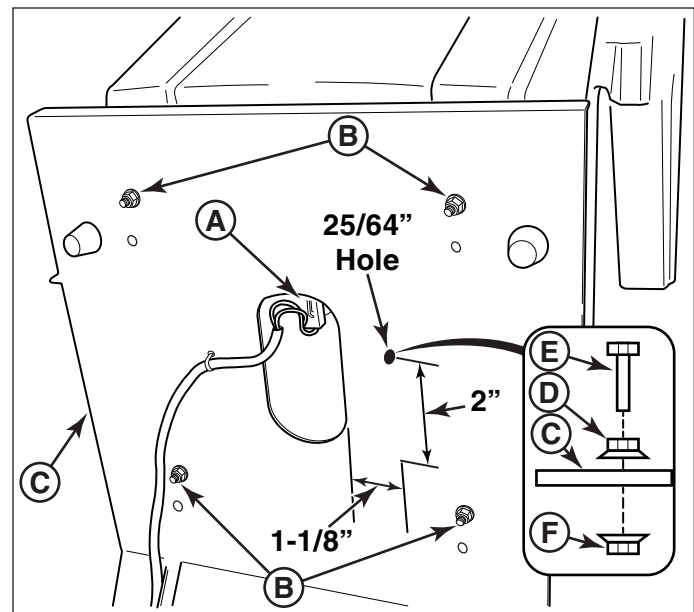

**Figure 1. Installing the Seat Spring Assembly**
3. Position the pre-assembled seat spring assembly (A, **Figure 1**) so that the spring goes up into the hole in the cross member of the frame labelled "1" and the two #10 nuts that retain the plunger switch fit into the slot in the frame labelled "2".
4. Secure the pre-assembled seat spring assembly to the frame of the unit using three (3) 5/16-18" bolts (B), 5/16 SAE washers (C), and 5/16-18 nylock flange nuts (D).